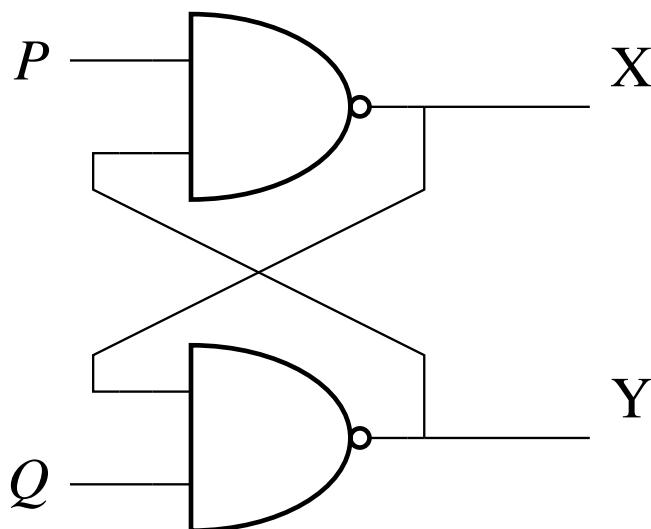

Fig. 3.22
39. In the latch circuit shown in Fig. 3.22, the NAND gates have non-zero but unequal propagation delays. The present input condition is: $P = Q = '0'$. If the input condition is changed simultaneously to $P = Q = '1'$, the outputs X and Y are